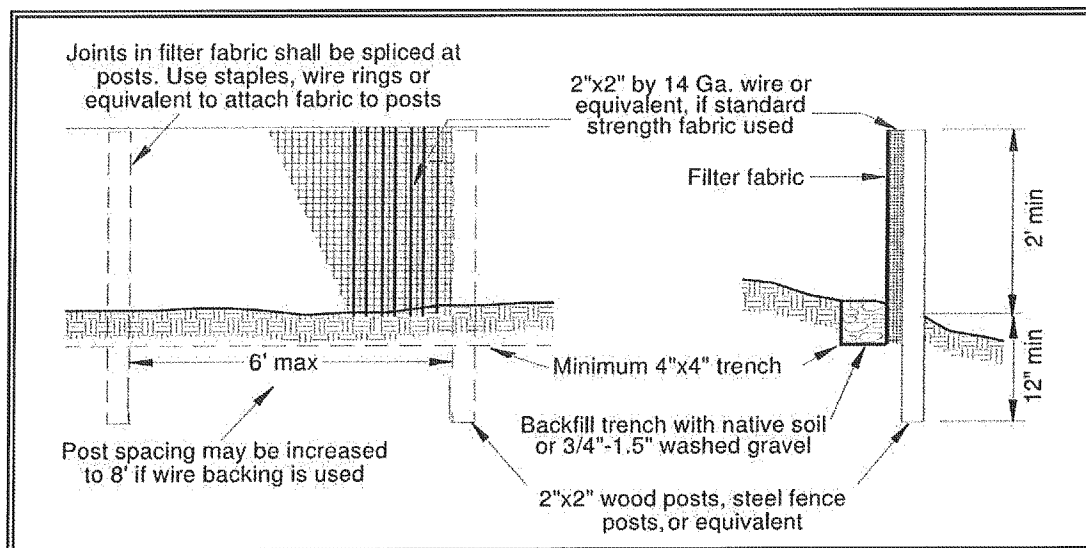

Figure 4.2.12 – Silt Fence
Use of a silt fence reduces the transport of coarse sediment from a construction site by providing a temporary physical barrier to sediment and reducing the runoff velocities of overland flow. See Figure 4.2.12 for details on silt fence construction.
- Refer to Figure 4.2.12 for standard silt fence details. Include the following standard Notes for silt fence on construction plans and specifications: